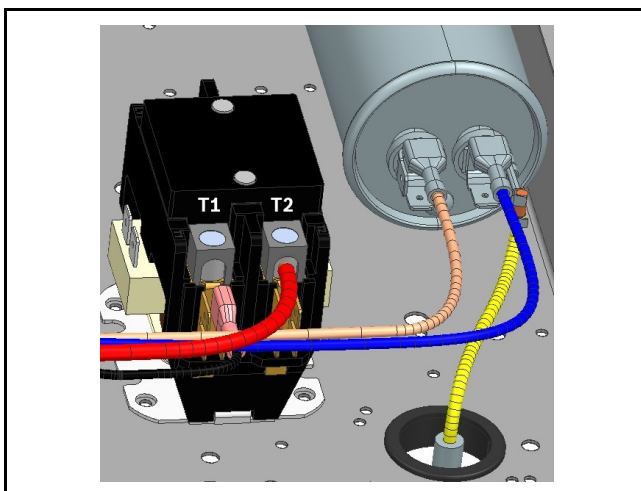

Fig. 13 Wiring at the Contactor and Capacitor
4. Perform the following at the compressor contactor, using the Smart Start harness (See Fig. 13):